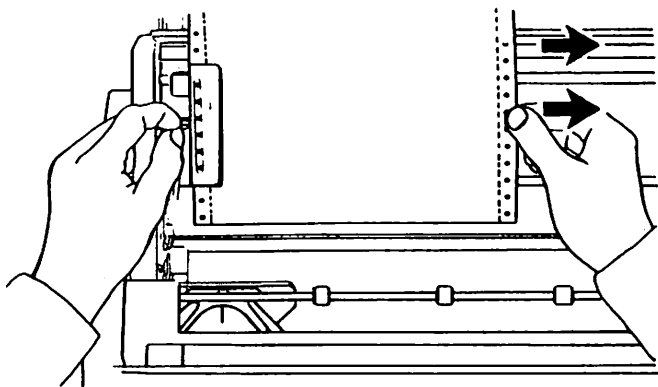

Figure 22 Positioning left tractor
4. Using the single form and the scale on the silencer hood as guides, position the left tractor (Figure 22) so that the center of the form is aligned with the center of the scale (reading of 68 on 10 CPI scale or 81.5 on 12 CPI scale).